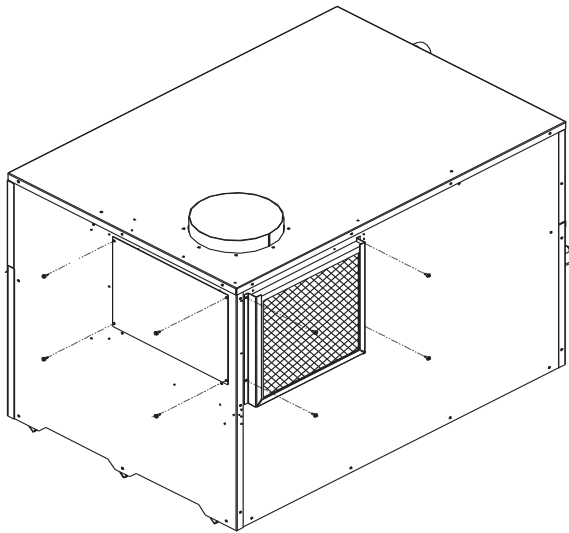

FIG. 4 Metal Panel Covering Side Combustion Air Inlet
1. Remove the metal panel from the unit's side wall (see FIG. 4).